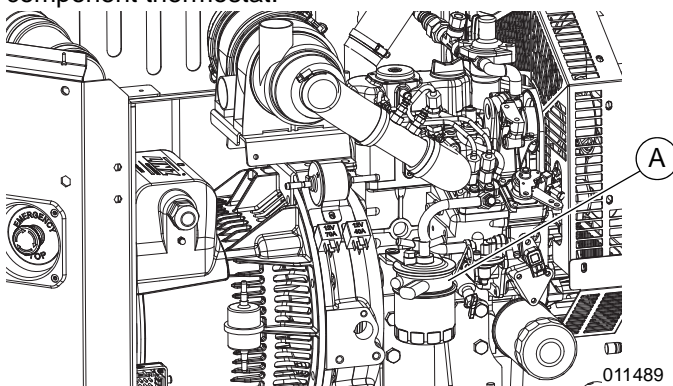

Figure 3-17. Heated Fuel Filter
See Figure 3-17. The heated fuel filter (A) prevents diesel fuel from gelling in extremely cold temperatures. Heating cycles are automatically controlled by the component thermostat.